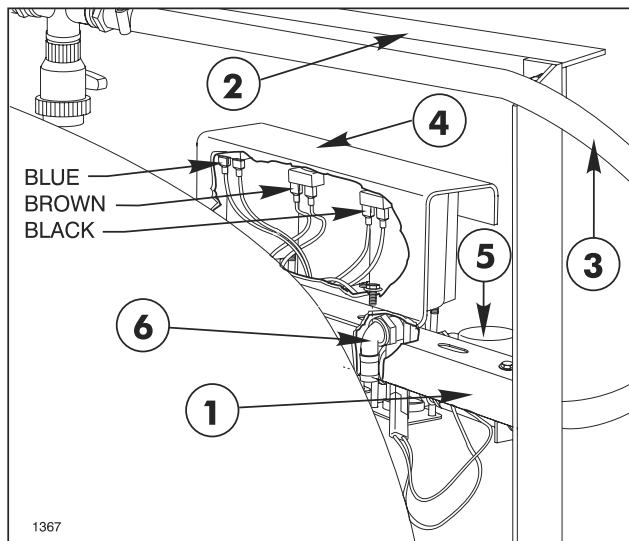

FIG. 15
1. Install three (3) 90° 3/4" Hose Barbs into the front outlet (wiring side) ports of Solenoid Valves. See FIG. 15.
3. Connect the plug on the 6' extension cable to the control valve, then make connections to the electric solenoid valves (black wire on the left solenoid, brown on the middle solenoid, blue on the right solenoid, and white jumper on all three solenoids. See FIG. 15.
5. Install Solenoid Valve and Bracket Assembly to the Bottom Cross Support as shown in FIG. 15. Secure with two (2) flange cap screws and Hex Flange Nuts. **NOTE: If the Hydroject 4000 kit (Model 09850) has been installed or will be installed, it is necessary to remove and discard top Cross Support Angle and put the Bottom Cross Support Angle in its place. A hole will have to be drilled to mount the Tee Assembly Bracket on the relocated Bottom Cross Support.**